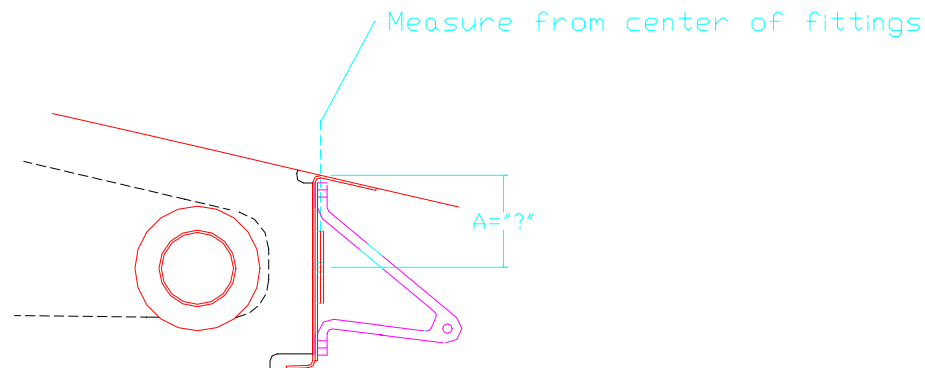
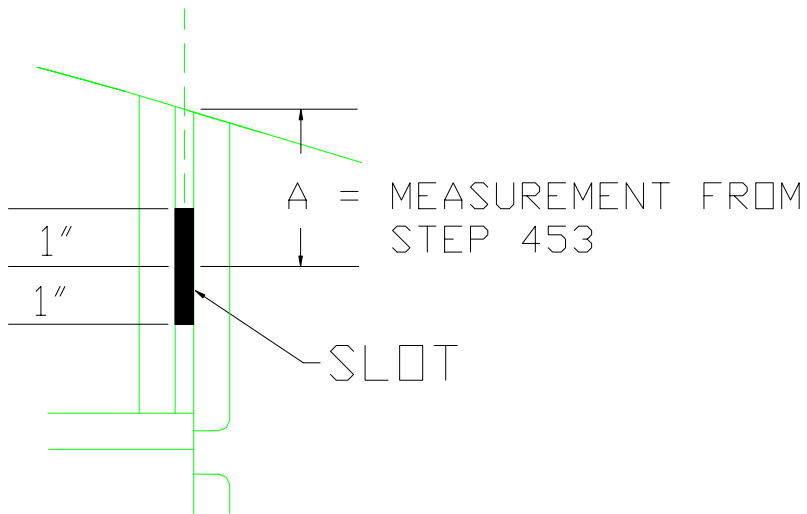

Figure 9.13.4
Figure 9.13.6
- 11) On the left wing find the distance from the top skin to the attachment hole in the rear spar fittings (W-124). Figure 9.13.4.
- 13) On the centerline and from the top of the fuselage mark the distance measured in figure 9.13.4. See Figure 9.13.6.
- 14) Mark and cut out a slot between the two bulkheads as in Figure 9.13.6.